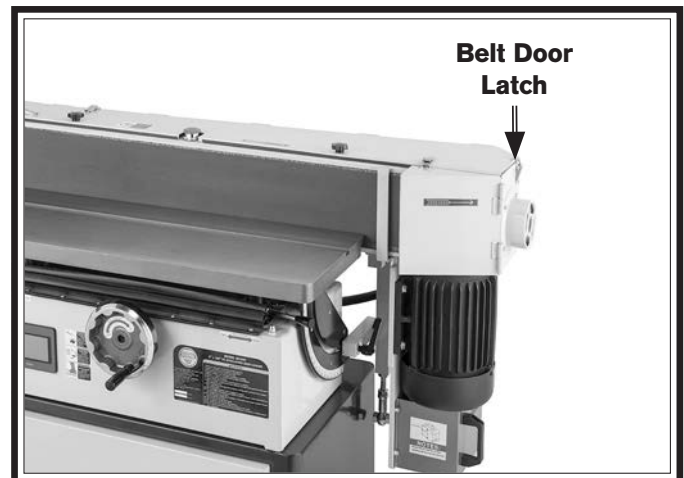

Figure 27. Belt access door latched closed.
- 13.** Latch belt door latch shown in **Figure 27**.